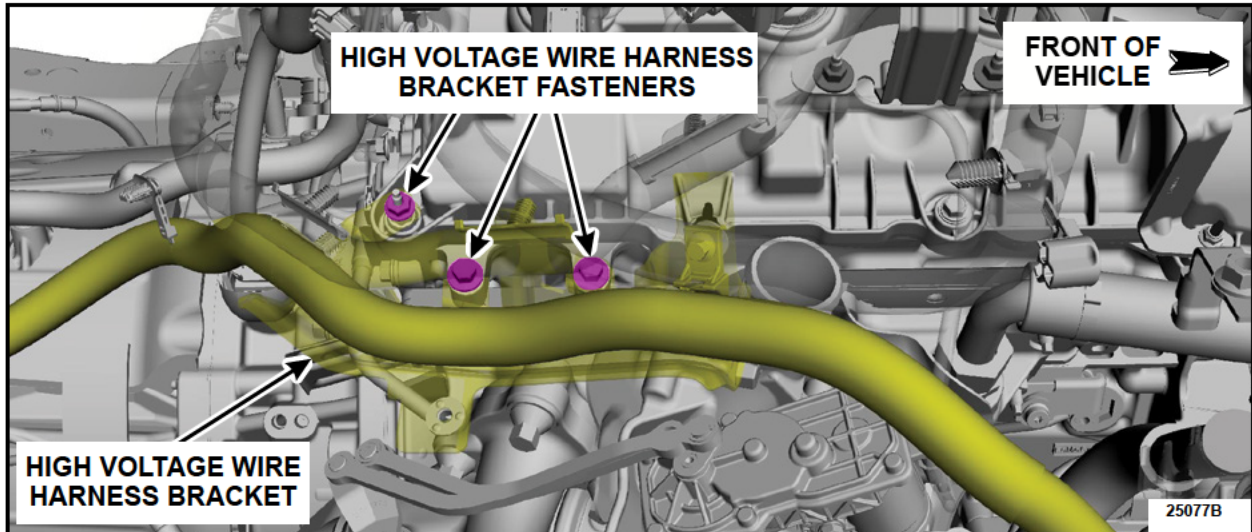

FIGURE 2
11. Remove the high voltage wire harness bracket fasteners. See Figure 2.